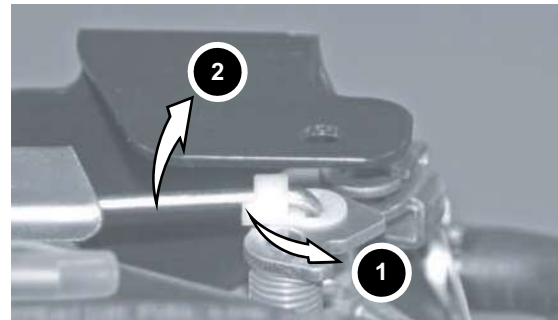

Figure 2 Throttle Rod Adjustment
To remove the throttle rod from the carburetor throttle plate (Figure 2), twist the plastic connector (1) counter-clockwise away from the throttle rod. Line up the slot with the tabs on the rod. Remove the rod from the carburetor throttle lever by lifting up (2).